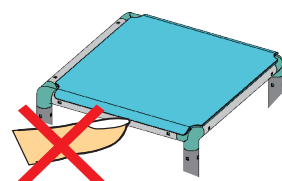

Fig. 5-3
- (3) Warning: Keep fingers clear of the gap between the SQUARE FLATS and tubes when they are being connected. (Fig. 5-3)